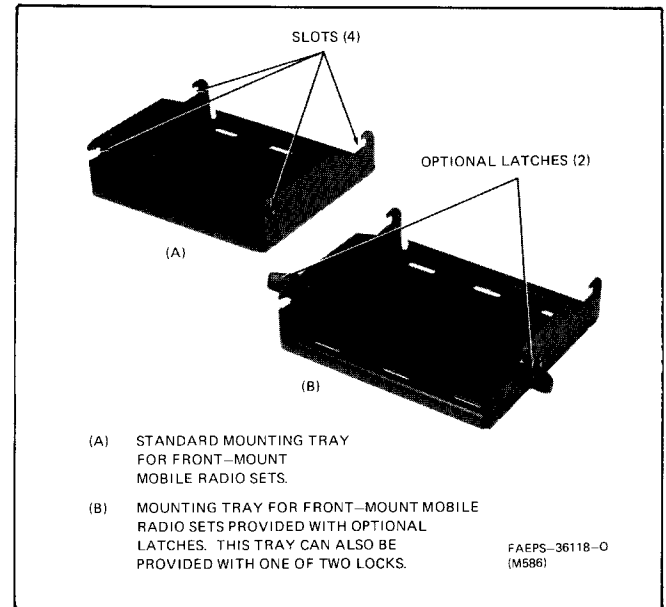

Figure 1. Mounting Trays
Step 1. Depending on the option ordered, front-mount radios may be mounted using either standard or optional trays. (Refer to Figure 1.)